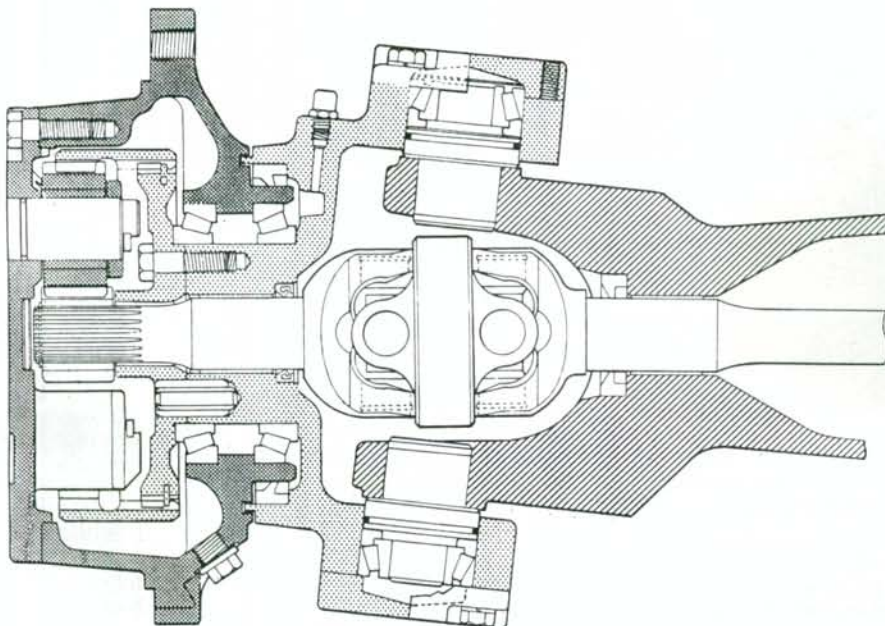

Fig. 15—Cross section of typical front drive axle.
11. R&R AND OVERHAUL. Refer to Fig. 15. Either planetary assembly can be serviced without